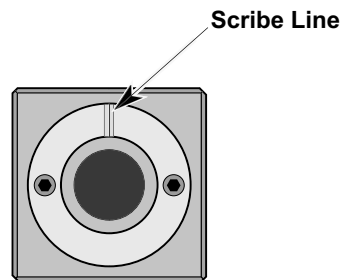

Figure 7Y-8. Agilent 10774A or Agilent 10775A Interferometer scribe line
- 6** Rotate the interferometer's bezel until the bezel's scribe line (see Figure 7Y-8) is oriented perpendicular to the aperture slot on the Straightness reflector. Two beams should now exit the interferometer in a plane perpendicular to the aperture slot on the reflector.
- 7** Position the reflector so that the two dots are located over the scribed center-line of the reflector housing and the face is square relative to the incoming beam. See Figure 7Y-8.